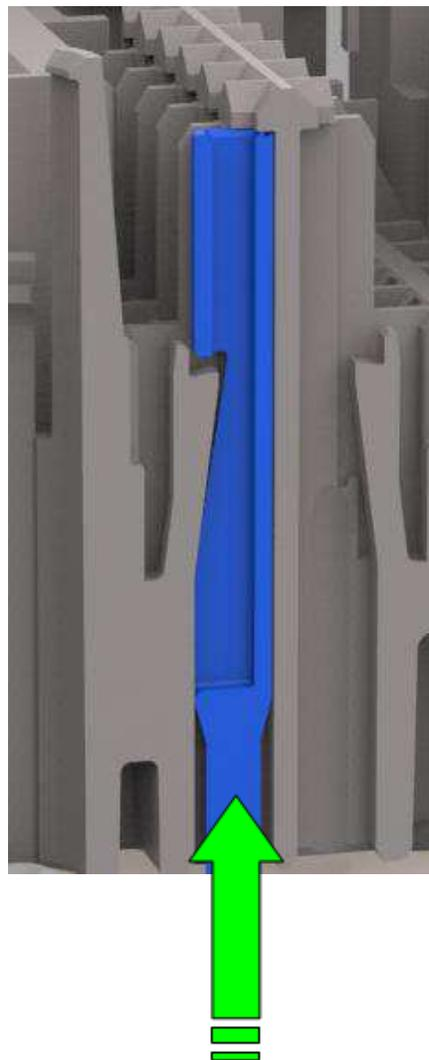

Figure 35
1. Push the seal plug forward until it stops. See Figure 35.
1. Push the seal plug forward until it stops. Refer to Figure 35 Generation Y seal plugs extraction.